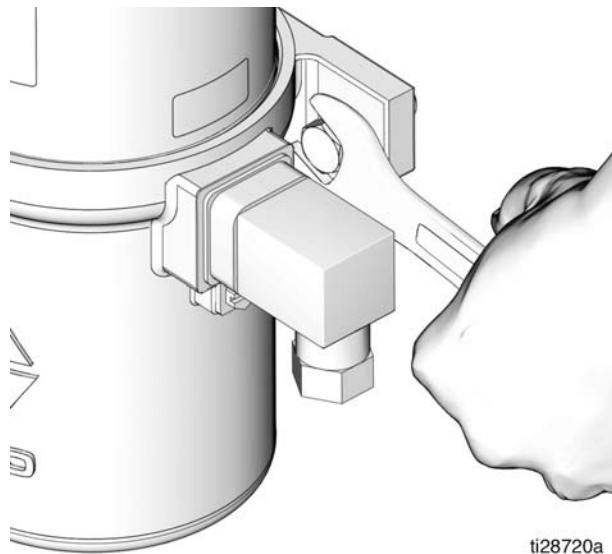

FIG. 12
7. Remove mounting bolts (FIG. 12) and remove the pump from service.